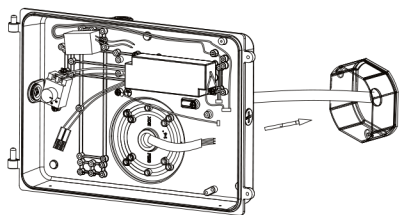

Fig. 1-3A
- Loosen the plug on the bottom plate, then put the wiring through the hole, screw the bottom cover with junction box on the wall.(Fig. 1-3A&B)